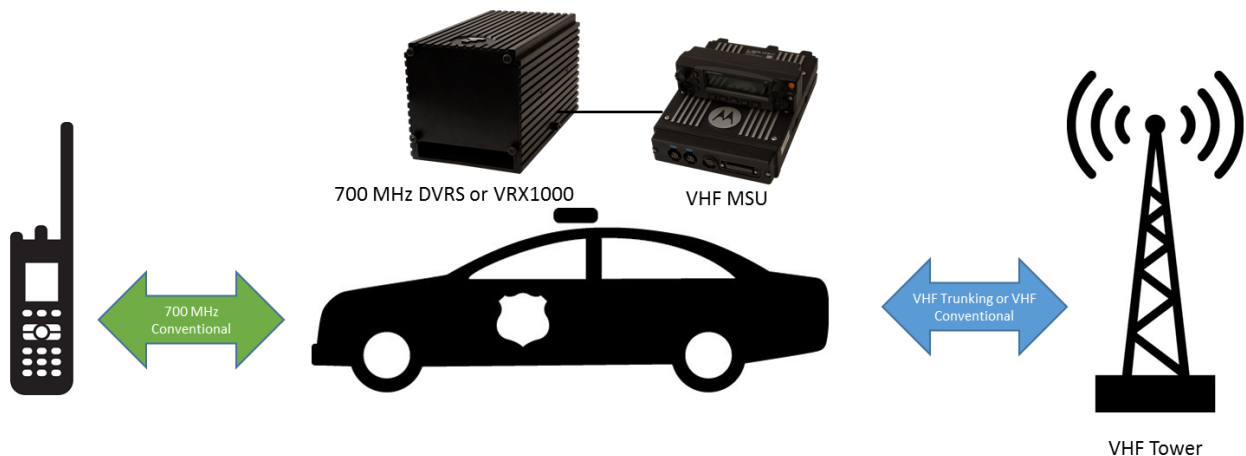

Figure 4: Cross-Band Operation
- A. Frequency Separation – If the MSU and DVRS/VRX1000 are hundreds of MHz apart (such as the DVRS/VRX1000 operating in 700 MHz and the MSU in VHF – see figure 4) then it is a “Cross-Band” arrangement where antenna physical separation can be minimal and no filters are required.